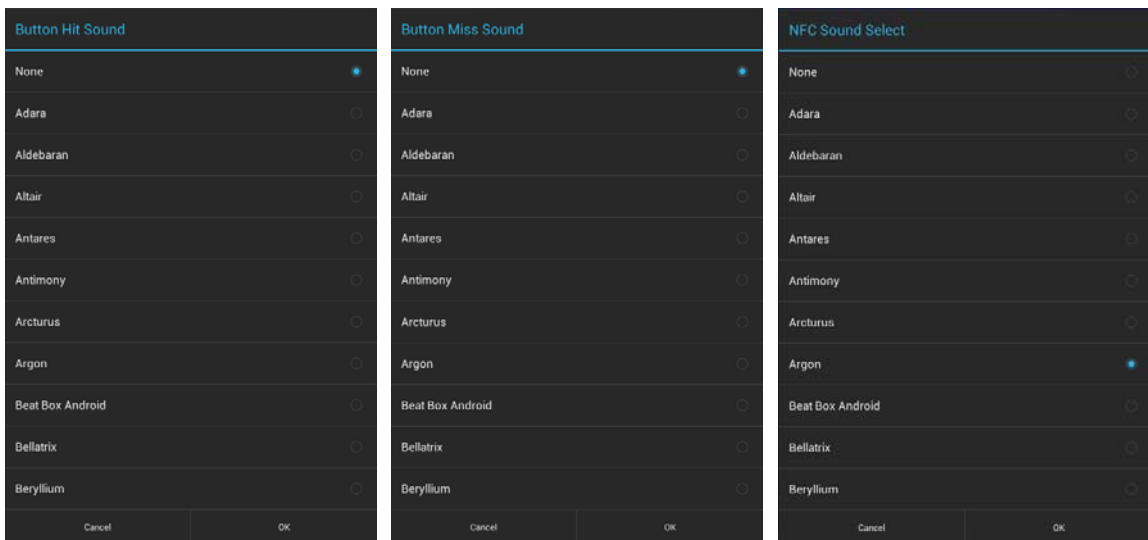

FIG. 18 Button Hit Sound, Button Miss Sound and NFC Sound Select windows
- Select **Button Hit Sound** to select a sound to coincide with a button being *pressed* via the *Button Hit Sound* window (FIG. 18):
- Select **Button Miss Sound** to select a sound to coincide with a button being *missed* via the *Button Miss Sound* window (FIG. 18):
- Select **NFC Sound Select** to select a sound to coincide with an NFC device being detected by the panel via the *NFC Sound Select* window (FIG. 18):